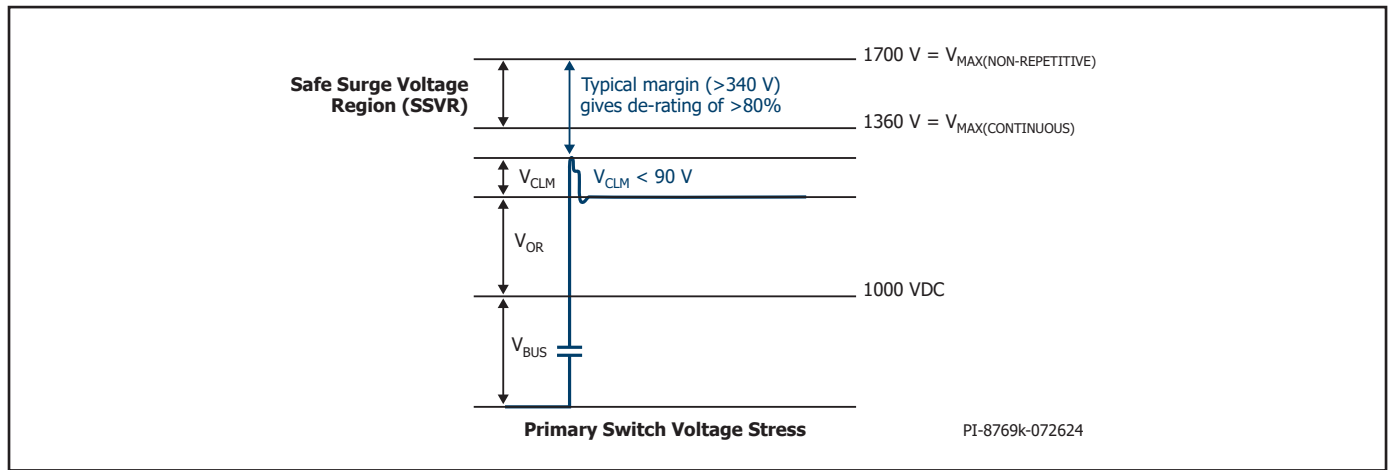

Figure 21. Peak Drain Voltage for 1000 VDC Input Voltage.
7. Higher peak Drain current is allowed while Drain voltage is simultaneously less than 400 V. Please refer to Figure 21 and Figure 26.